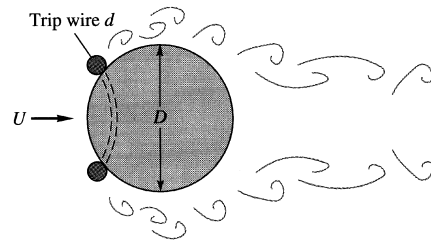

Fig. P6.5
6.5 In flow past a body or wall, early transition to turbulence can be induced by placing a trip wire on the wall across the flow, as in Fig. P6.5. If the trip wire in Fig. P6.5 is placed where the local velocity is U , it will trigger turbulence if $Ud/\nu = 850$, where d is the wire diameter [Ref. 3 of Ch. 6]. If the sphere diameter is 20 cm and transition is observed at $\text{Re}_D = 90,000$, what is the diameter of the trip wire in mm?